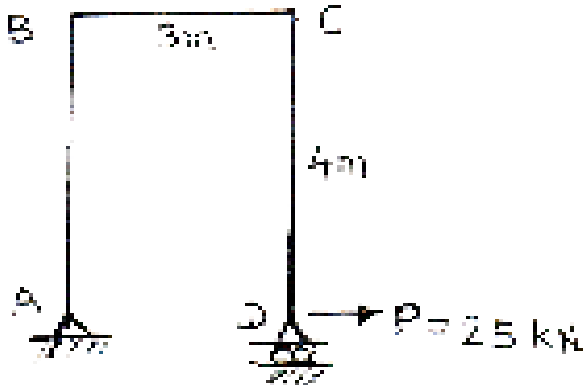

Fig. 2
- c) A portal frame ABCD has shown in Fig. 2. Determine the horizontal deflection of roller at D under the load, P. Assume constant EI for all members. 6